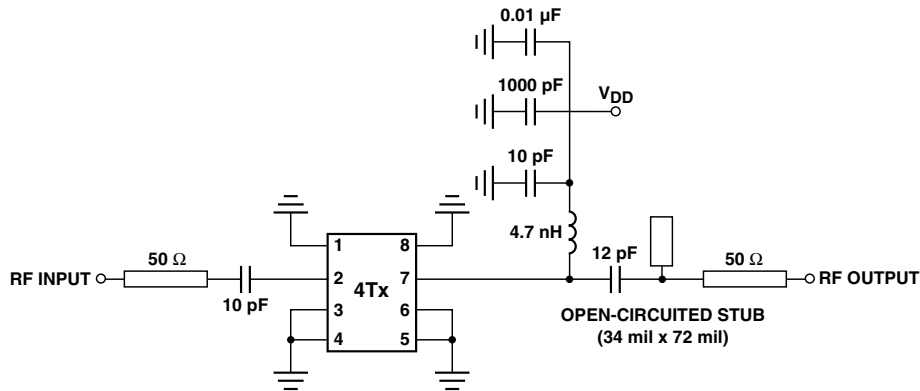

Figure 1. Production test circuit. This circuit represents a match for maximum gain and saturated power.
- Measurements made on a fixed tuned production test board (figure 1), which was optimized for gain and saturated power. Excess circuit losses had been de-embedded from actual measurement. Typical data based on at least 500 parts sample size from 3 wafer lots. Future wafers allocated to this product may have nominal values anywhere within the upper and lower spec limits.